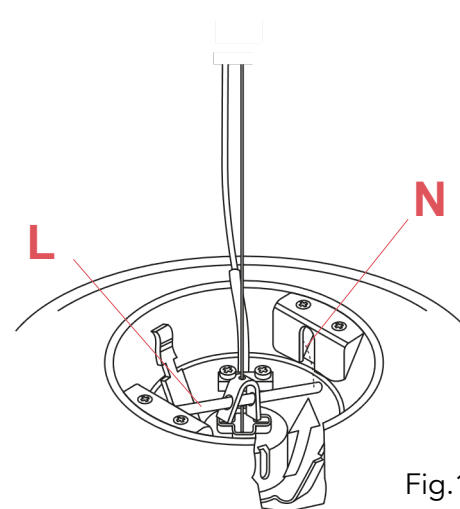

Fig.10
- Hook the rod (L) into the housing (N), up to the blocking "click".(Fig.10)